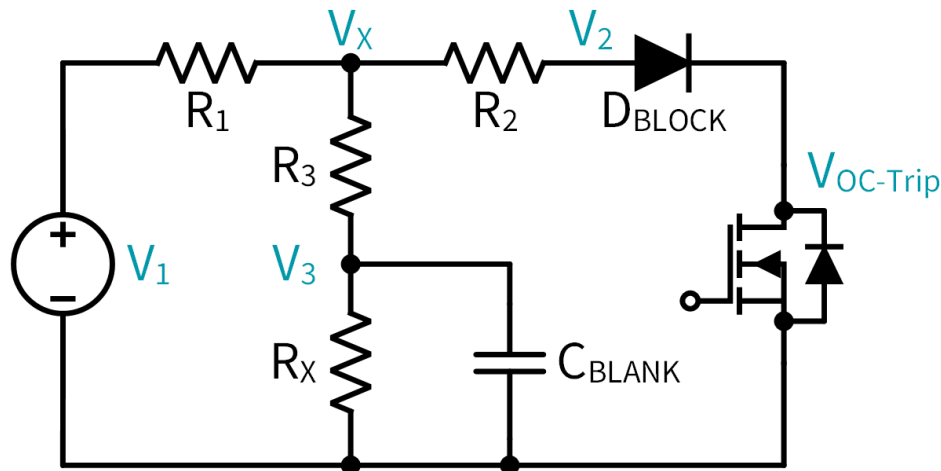

Figure 43: Notional overcurrent fault circuit
The internal comparator trip voltage in the ADuM4146C gate driver IC used on the CGD1700HB2P-BM2/3 gate drivers is 3.5 V. The circuit is simplified into the notional diagram shown in Figure 43. Referring to this figure, the intermediary voltages V_2 and V_X and the trip resistor, R_X , can be calculated using the following equations:
- V_2 : intermediate voltage shown in Figure 43 [V]
- V_x : intermediate voltage shown in Figure 43 [V]